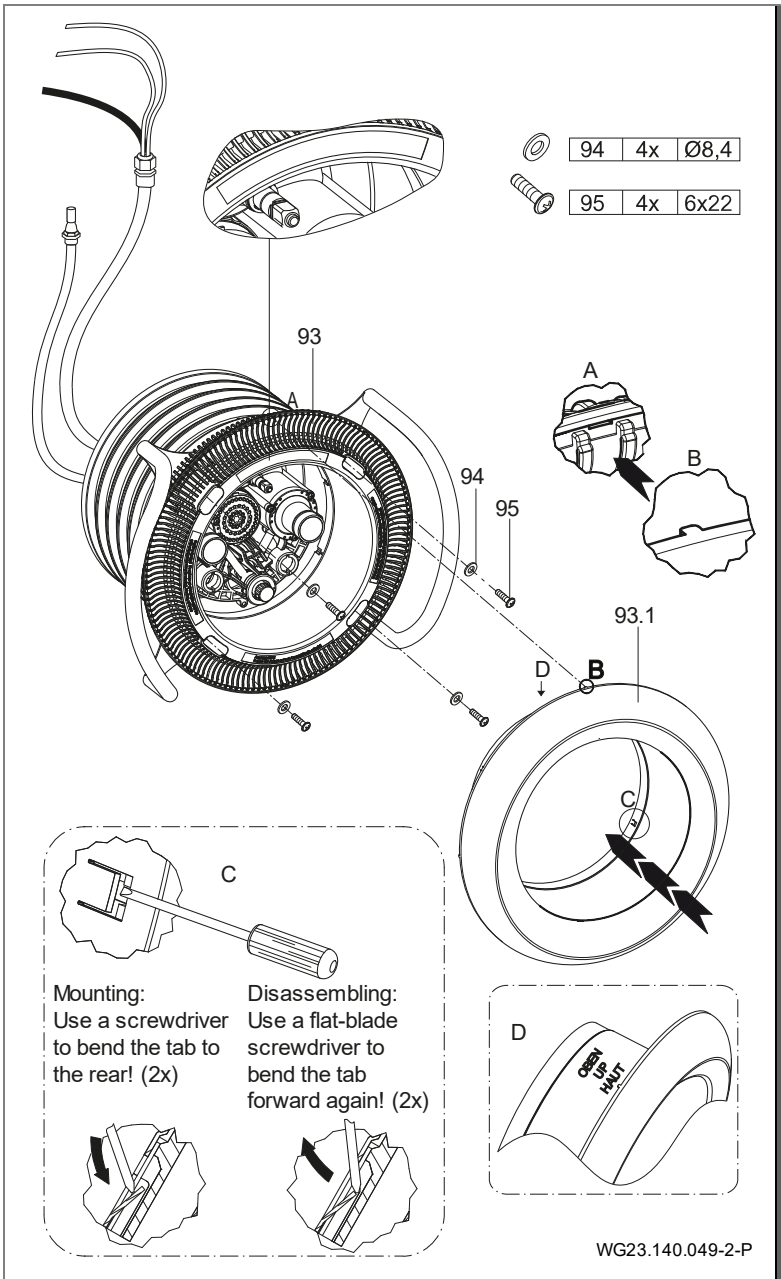
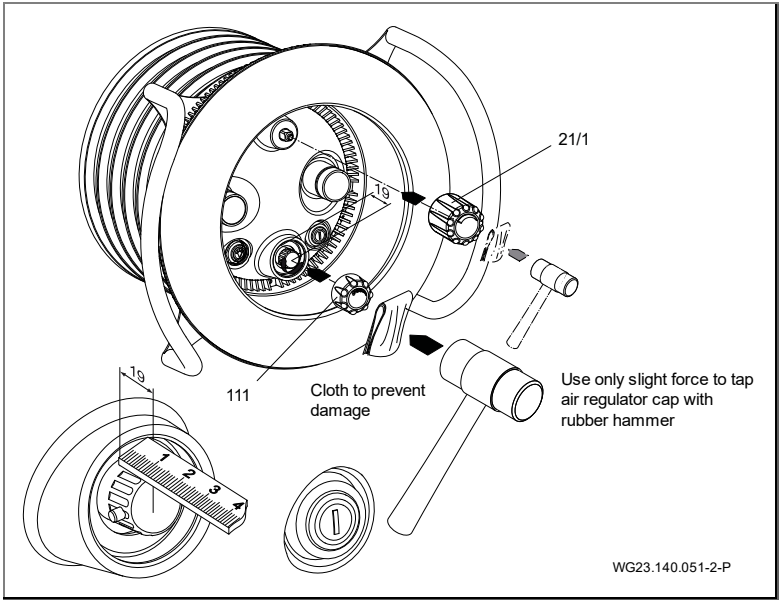

Fig. 19
Fig. 21
7. Align the complete nozzle housing (102.1) to the main housing (1) and fasten the ten pre-assembled tapping screws (61). (Fig. 19)
9. Place the suction panel (93) on the support ring (28) and fasten with four plain washers (94) and four tapping screws (95). (Fig. 19)
10. Align the stainless steel cover with the protruding centring nubs to the existing recesses of the suction panel (93) and press them together by hand. Observe the "UP" marking on the stainless-steel cover. To fasten the cover use a screwdriver to bend the two offset tabs towards the back. (Fig. 19)
12. Slide one O-ring (37) onto each pneumatic button (38/1; 38/2). Fasten the pneumatic hoses to the corresponding buttons using the hose clamps (46). Insert the two pneumatic buttons through the light cover (110) in the nozzle housing and lock by turning it clockwise. (Fig. 21)
1. Remove the caps for the volume regulator (21/1) and air regulator (111). On the BADU JET Primavera Deluxe, the grub screw must be loosened before pulling off the cap. See "Fig. 21"
2. Loosen the tapping screws (112) and remove the light cover (110).
3. Bend the two offset tabs on the stainless steel cover back towards the front and remove the stainless steel cover. See "Fig. 19"
4. Loosen the tapping screws (95) and remove the suction panel (93) and hand rail (70).
5. If necessary, loosen the tapping screws (61). Remove the nozzle housing (102.1). When doing so, be aware of the internal air line (4) which is fastened to the main housing (1).
6. Loosen the screws (52). Remove the handrail (70), support ring (28) and support ring seal (27).